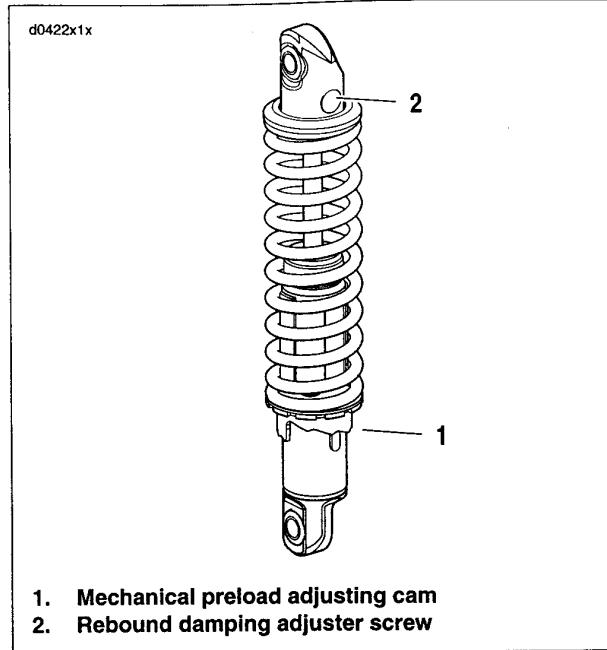

Figure 1-43. Rear Shock Adjustments
5. See Figure 1-43. To adjust the rear shock spring preload, turn spring adjusting cam (1) to the desired position using SPANNER WRENCH (Part No. HD-94700-52C). When returning to off-cam position, cams should be backed off in opposite direction.